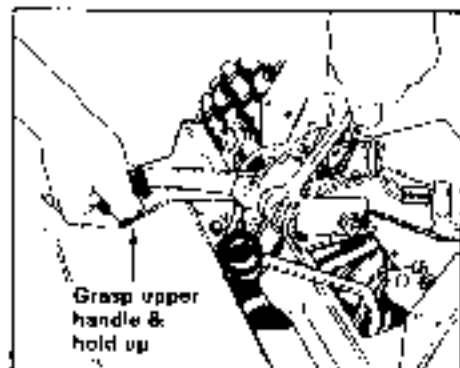

Figure 29. Tightening the Shoulder Bolt
- Place your finger on top of the bar (B, figure 29) and push the bar down until it stops.
- Tighten the shoulder bolt while holding the control lever up firmly as shown in figure 29. If the lever moves down at all while retightening, loosen the shoulder bolt and go back to step 11.